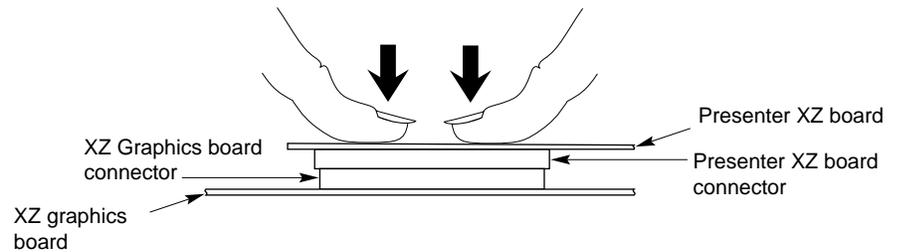

Figure 3-14 Seating the Presenter 1280 XZ Board's Connectors
6. Press to seat the Presenter 1280 board's connectors into the XZ graphics board's connectors, as shown in Figure 3-14.